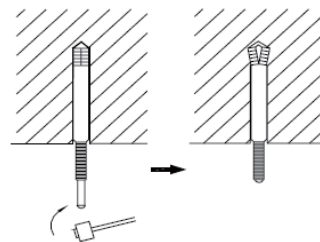

Figure 3-1-42
(3). Insert the anchor bolts into the drilled holes, and drive the pins completely into the anchor bolts with a hammer. (Figure 3-1-42)